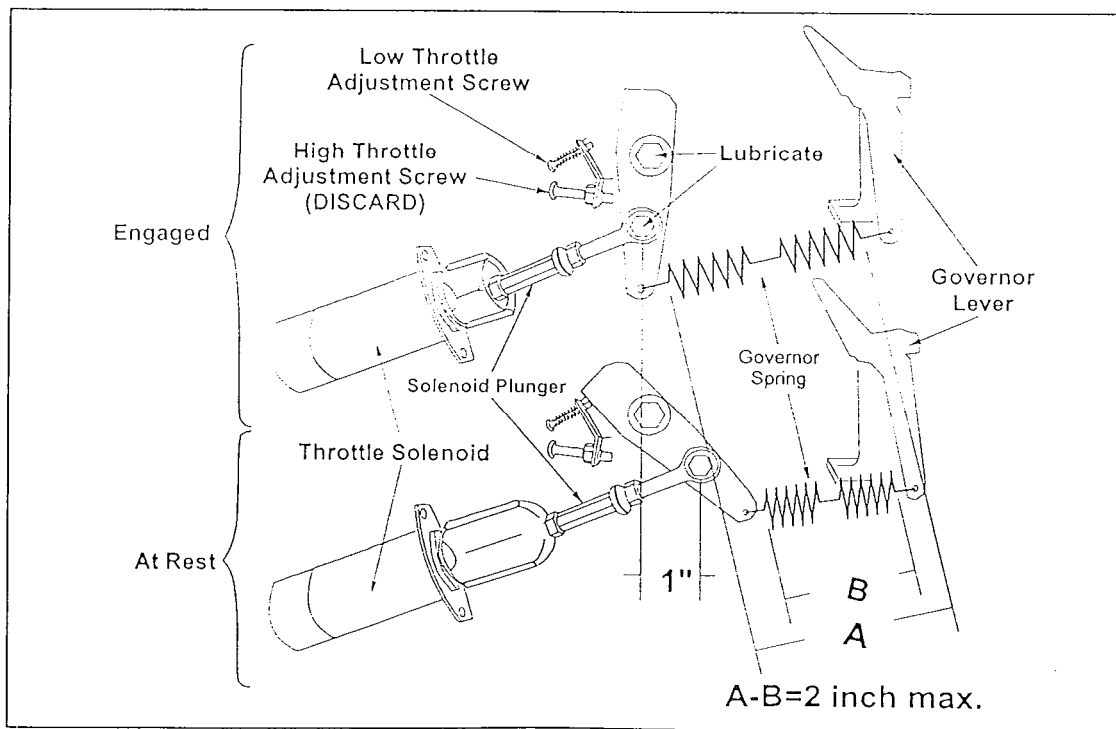

Figure 1
1. Read all instructions and refer to figure 1 before starting.
2. Adjust Low Throttle Adjustment Screw to limit Throttle Solenoid travel to one (1) inch maximum. Lock low throttle adjustment screw with a liquid screw lock compound. This will raise the engine idle speed.
5. Adjust Solenoid Plunger to attain 3600 RPM. This will stretch the Governor Spring approximately two (2) inches when solenoid is fully retracted.